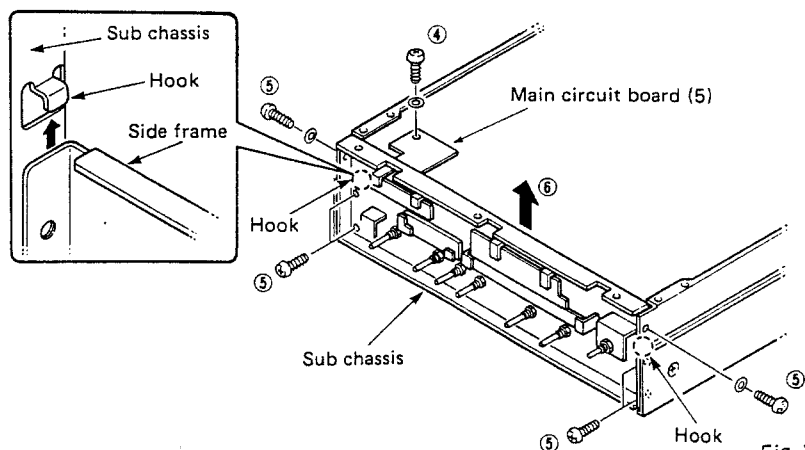

Fig. 2
4. Removal of Equalizer Circuit Board (2)
- a. Remove 7 screws (④ and ⑤) in fig. 2.
- b. Pull sub chassis up. (⑥) in fig. 2.